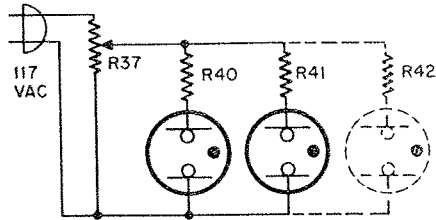

Fig. 2—Neon-lamp aging circuit. Adjust the potentiometer until the voltage drop across the resistors averages out to about 30 V.
Figure 2 is a schematic of the aging circuit. Using a 10,000-ohm 4-watt (wire wound) potentiometer (R37), adjust the voltage to all the lamps so that there's a 30-V (AC) drop across the 100,000-ohm ½-watt resistors (R40, R41, R42, etc.) in series with each lamp. Leave the lamps on for a period of at least 24 hours. Forty-eight hours is better if you're not in a hurry.